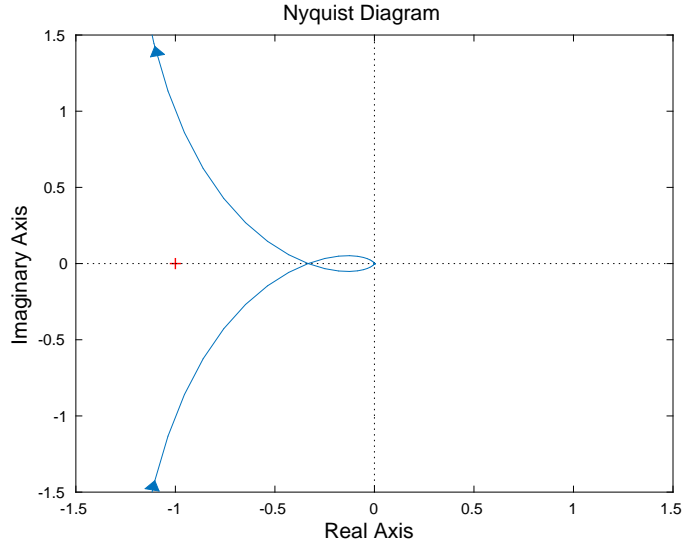

Figure 6.1 Nyquist plot for the system in problem 6.2.
- b. What is the amplitude- and phase-margin of the system with Nyquist plot as in Fig. 6.1? The system is stable.